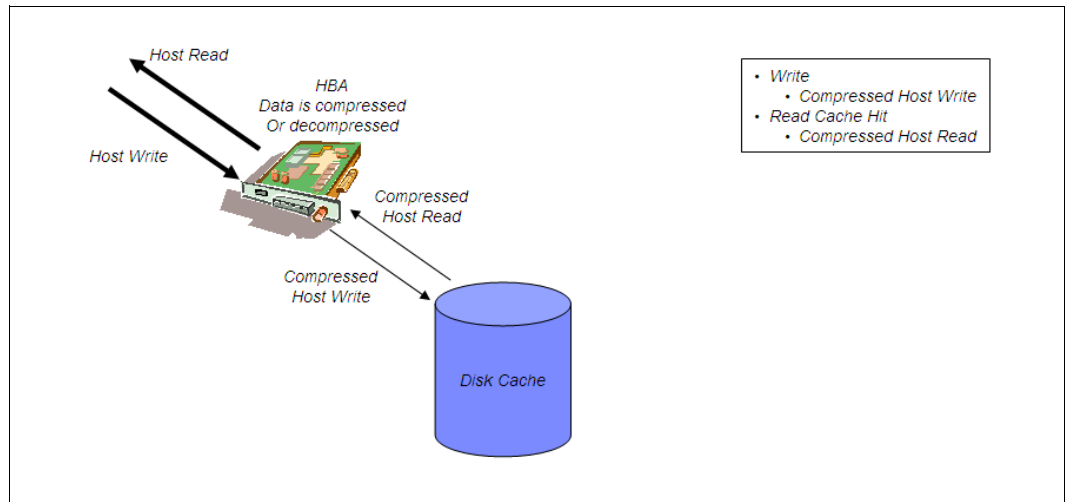

Figure 9-20 TS7720 single-cluster data flow
- *Compressed data* is read from the cache and decompressed by the HBA, as shown in Figure 9-20.